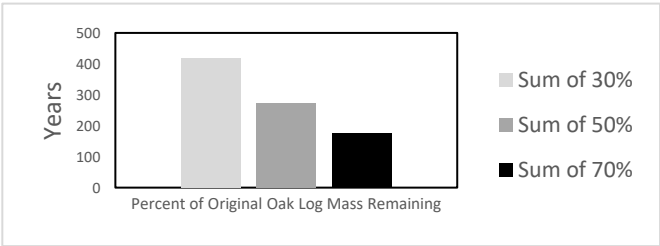

Figure 1: The amount of time it would take, given the inputs, to have a percentage of the original oak log mass remaining undecomposed.20
*Beginning with shorter end of the window, 70% original oak log mass remaining would take **175 years** to occur. For 50% of the original oak log mass to remain would take **273 years** to occur. For 30% of the original oak log mass to remain would take **420 years** to occur (Figure 1). While that range of 175 to 420 years is a significantly wide estimate of time, that is the best that can be derived given the information provided within the scenarios.*